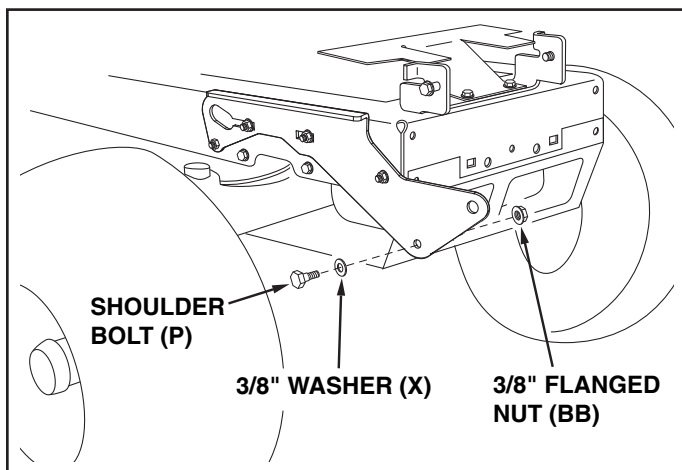

FIGURE 4 RIGHT SIDE VIEW
STEP 4: (SEE FIGURE 4)
- Assemble a shoulder bolt (P) and a 3/8" washer (X) to the outside of R.H. side plate, securing it with a 3/8" flanged nut (BB). Repeat for L.H. side plate.